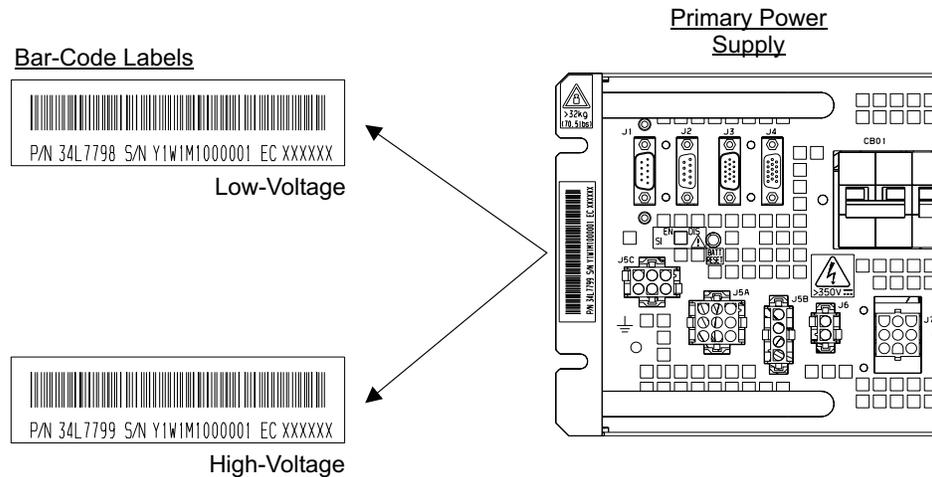

Figure 67. 2105 Low-/High-Voltage Primary Power Supply Identification (S008768m)
2. Determine the part number of the failing primary power supply by reading the bar-code label on the left side of the power supply, see Figure 67 on page 59. Check one of the following TDRs for the latest power supply part number information: